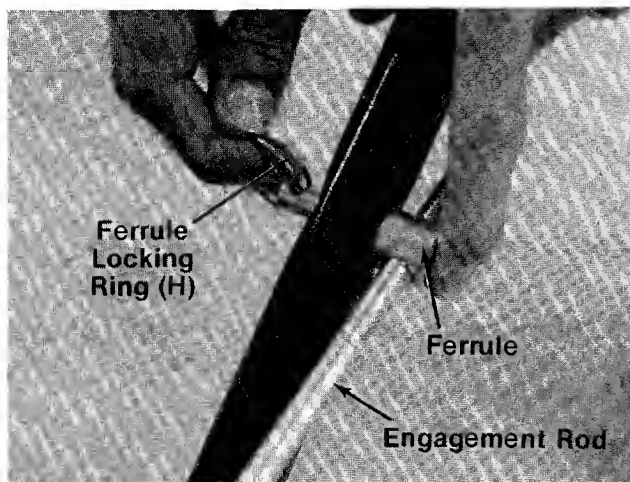

FIGURE 8.
10. With handle in the down position (released), place ferrule (B) on threaded end of engagement rod. Thread ferrule onto engagement rod until it lines up with the hole in lower handle.
11. Place ferrule into hole in lower handle. Secure with ferrule locking ring (H). See figure 8.